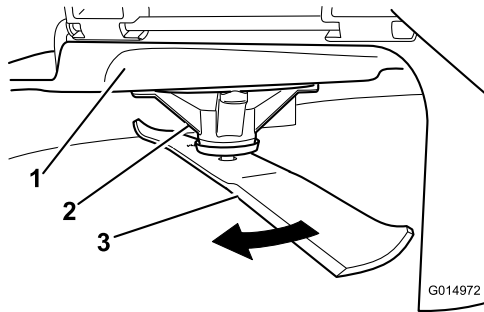

Figure 47
2. While wearing thickly padded gloves, or other adequate hand protection, slowly rotate the blade to be measure into a position that allows effective measurement of the distance between the cutting edge and the level surface the machine is on (Figure 47).